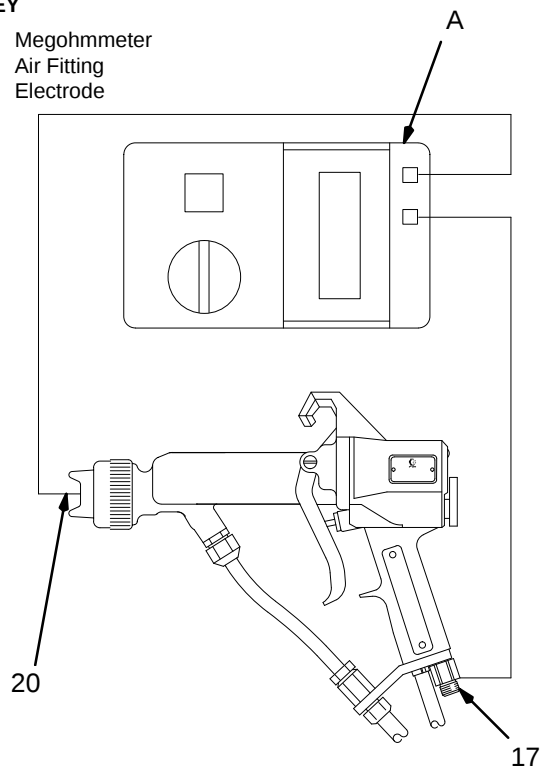

Fig 13
Measure the resistance between the electrode (20) and the gun air fitting (17). See Fig. 13. The resistance should be between 180 to 220 megohms. If the resistance is outside the specified range, go to the next test. If the resistance is correct, test the resistor stud resistance as shown on page 23.